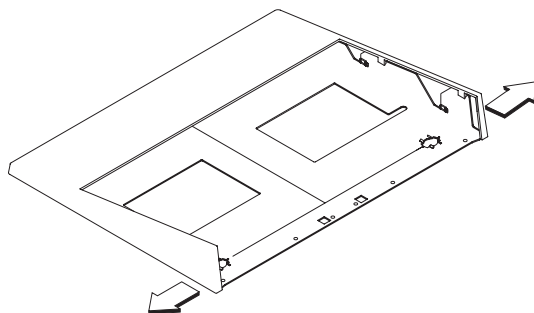

Figure 17. Detaching the fence from the tray
- 1) Spread the rear sides away from the tray as shown in Figure 17.